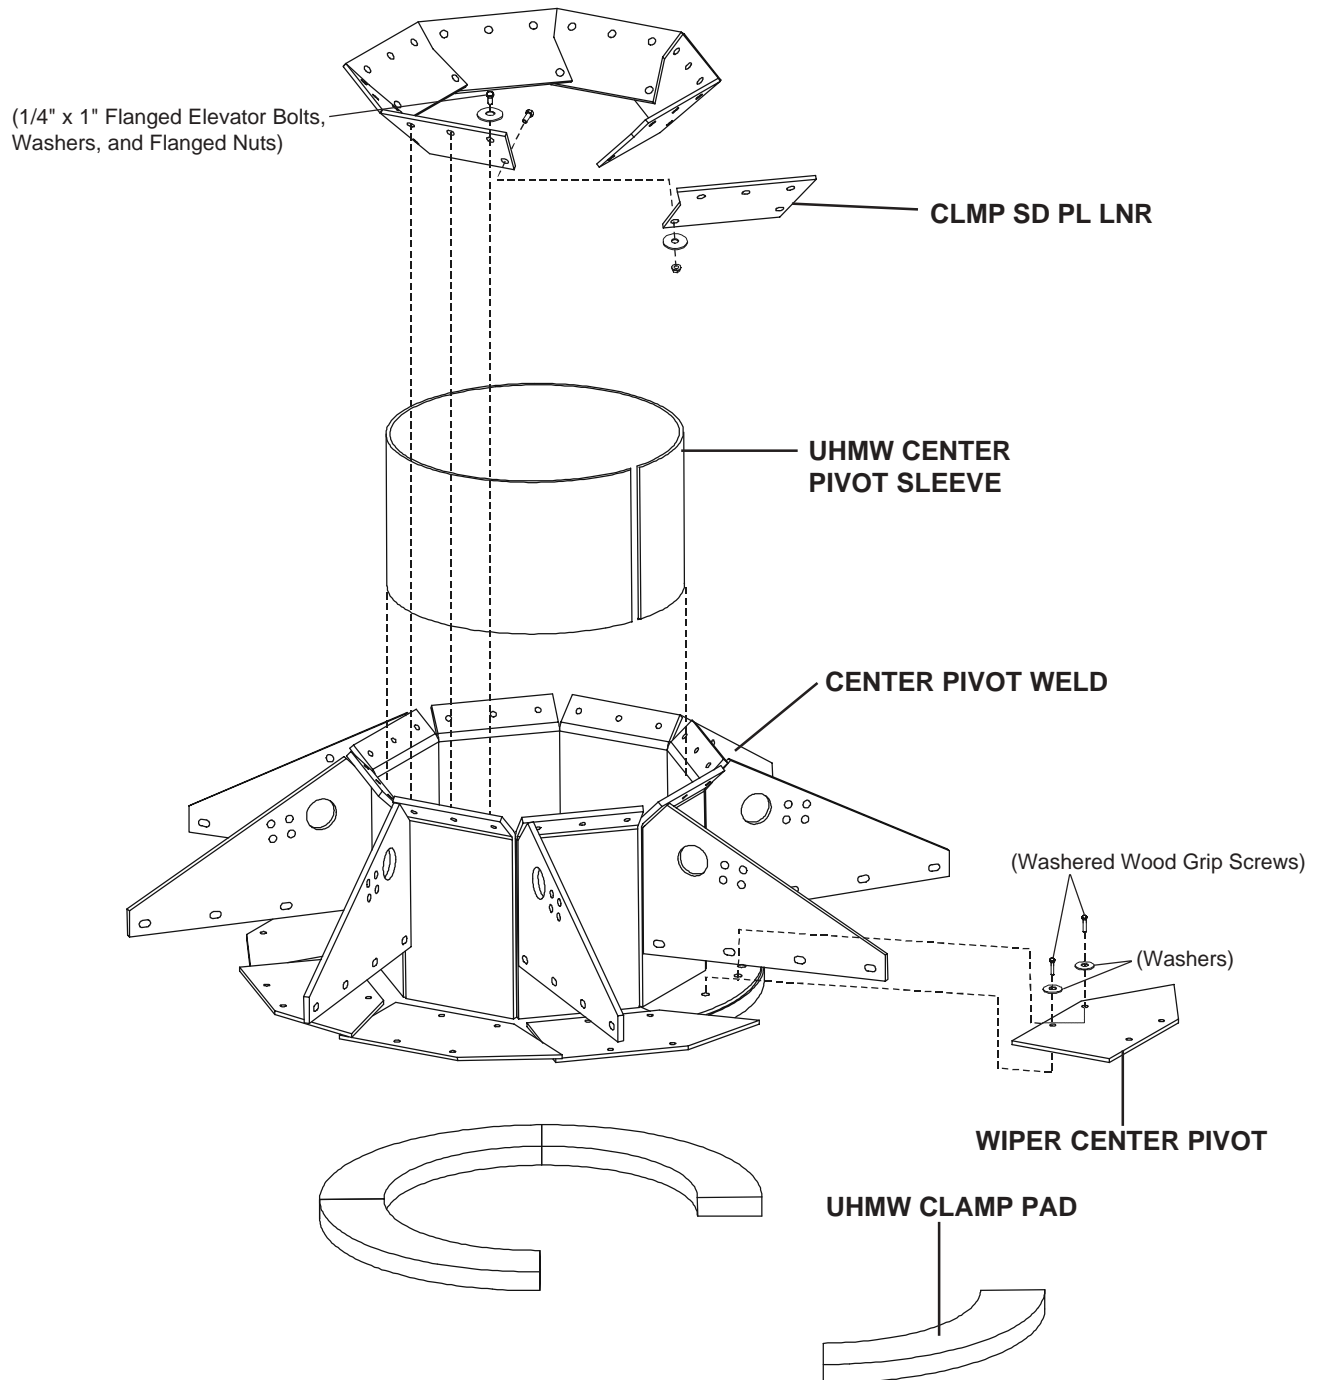

Fig. 9-2
3. Find the four sections which make up the white **UHMW CLAMP PADS** and place them on the Screen Deck Ring. Hoist the **CENTER PIVOT WELDMENT** and place it over the Upper Bypass Tube and on top of the UHMW Clamp Pads. Using washered wood grip screws with a 3/8" washer, fasten the **WIPER CENTER PIVOT** in place around the Center Pivot, driving them into the Clamp Pads. **Be careful not to strip out the screws by over tightening them. (See Fig. 9-2)**
4. The white **UHMW CENTER PIVOT SLEEVE** is now inserted between the Pivot Weldment and the Upper Bypass Tube. Slide the Pivot Sleeve down until the top is flush with the Bypass Tube. Install the blue urethane **CLMP SD PL LNRs** on the inner Center Pivot face to contain the Pivot Sleeve. Installing the Liners in a clockwise progression will provide the proper lap with respect to rotation direction. Use Fanged Elevator Bolts, 1/4" x 1" long and Flanged Nuts, adding a washer on the nut side where the urethane overlaps. (See Fig. 9-2)